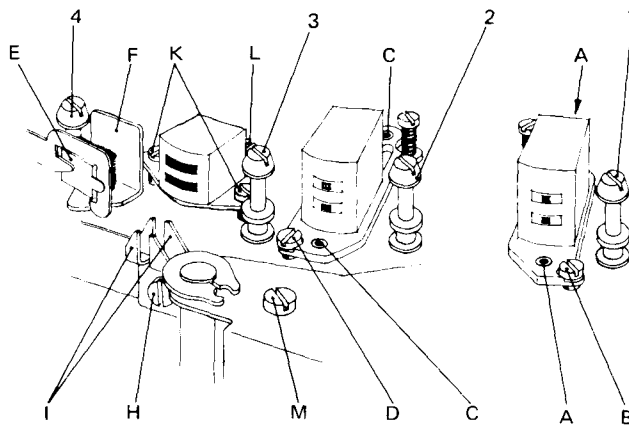
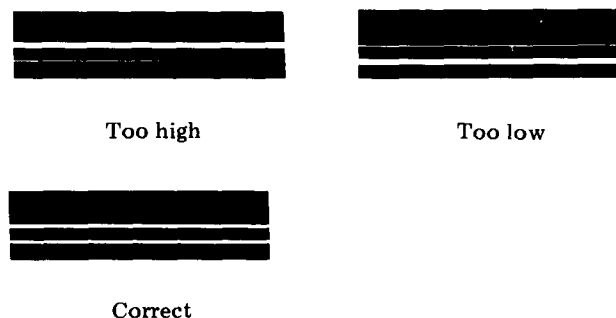

Fig. 3.1 Tape path adjustment screws
Fig. 6.2 Track measurement of erase head
Insert a new tape, and start the recorder in normal forward drive. Check visually that the tape appears to run parallel with the upper track of the record head, with a play of approx. 0,1 mm (4 mils). If necessary, adjust the height with screws (C) fig. 3.1, while endeavouring to maintain the headfront parallel to the tape.
Set the tape recorder in record mode, and unscrew the locking screw (H) fig. 3.1, about 1/2 turn. Connect a VTVM across each one of the record head halves. Move the bias head up or down by means of adjustment screw M for the highest possible reading on the voltmeter. Check that the tape runs freely in the groove in front of the bias head and that there is sufficient clearance between the bias head and the mounting plate for the record head. The height position of the bias head is not critical, and if the clearance between the bias head and the mounting plate for the record head is insufficient, raise the bias head slightly.
Connect a VTVM across each one of the record headhalves, and set the tape recorder for stereo recording. Insert a screwdriver in groove I, ref. fig. 3.1, and pull the bias head to the right.
By visual inspection, check that approx. 0,25 mm (10 mils) of the upper half of the erase head is visible above the tape. Insert Tandberg test tape No. 9 and record a 400 Hz signal at 7 1/2 ips well above normal level on channel R (track 3). Dip the tape in a solution of fine grained iron oxyde powder and alcohol (Magna See solution). Check that the recorded track is positioned in centre of the erased track. Make sure that no parts of the adjacent tracks are erased, see fig. 6.2. If necessary, adjust the height of the erase head by means of the screws (K) and (L) ref. fig. 3.1, and repeat the above check.
Check that the head front of the erase head is perpendicular to the mounting plate. If necessary, adjust azimuth position by means of the screws (K) ref. fig. 3.1. This adjustment is not critical.
The height of the playback head is aligned by the height adjustment screws (A), ref. fig. 3.1. The upper edge of the tape shall run flush with the upper part of the head lamination for channel L.
Play back a standard azimuth alignment tape with a VTVM connected to each output. Adjust the position of the playback head by the azimuth adjustment screw (B) ref. fig. 3.1, until maximum reading is obtained on the output meters.
The height of the erase head is aligned by the height adjustment screws (K and L) ref. fig. 3.1. Approx. 0,25 mm (10 mils) of the ferrite core for the upper track of the erase head should be visible above the tape.
Insert a full-track prerecorded tape and record a 1.000 Hz signal from a generator, well above optimum recording level in mono on track 3 (channel R). Cut the tape and dip it into the Magna See solution. Check that the prerecorded track is in the centre of the erased area, ref. fig. 6.2. Adjust the vertical position of the erase head if necessary.
The height of the erase head is aligned by the adjustment screws (K and L) ref. fig. 3.1. Record a 1.000 Hz signal in stereo well above optimum recording level on a full-track prerecorded tape. Dip the tape in the Magna See solution and check that the tracks are distributed symmetrically across the tape. Readjust the erase and the record heads, if necessary.